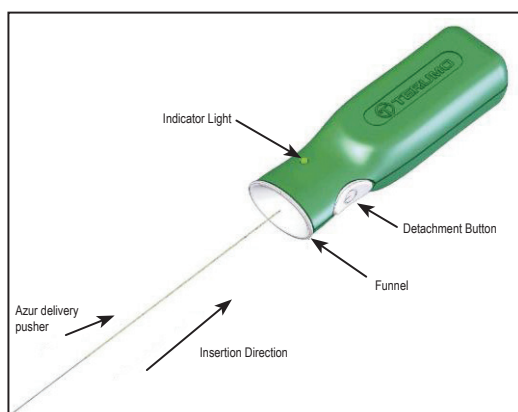

Figure 2 – Azur Detachment Controller
15. Prior to using the device, remove the proximal end of the delivery pusher from the packaging hoop. Use care to avoid contaminating this end of the delivery pusher with foreign substances such as blood or contrast. Firmly insert the proximal end of the delivery pusher into the funnel section of the AZUR Detachment Controller. See Figure 2. **Do not push the detachment button at this time.**
35. Connect the proximal end of the delivery pusher to the AZUR Detachment Controller by firmly inserting the proximal end of the delivery pusher into the funnel section of the AZUR Detachment Controller. See Figure 2.